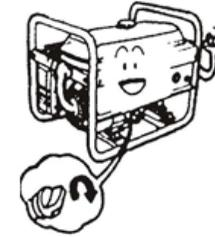

Figure 11
- If the oil level is below the lower mark of the dipstick, add oil to its higher mark (Figure 11)